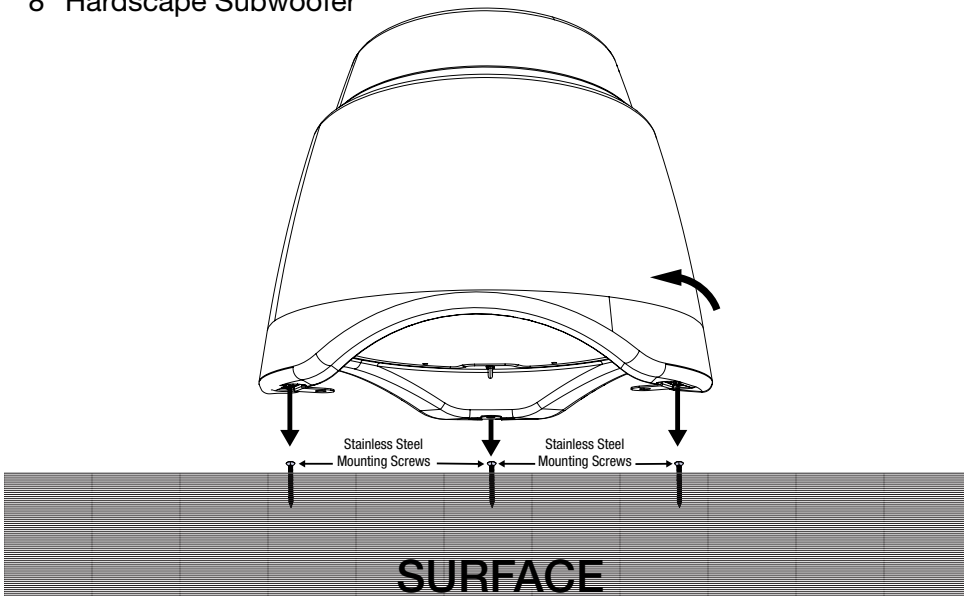

Figure 6: Secure Subwoofer
4. Attach the Hardscape subwoofer to the stainless-steel screws (as shown in **Figure 6**) by sliding the screws into the key-ways on the underside of the subwoofer- rotating the subwoofer slightly to lock it into place.